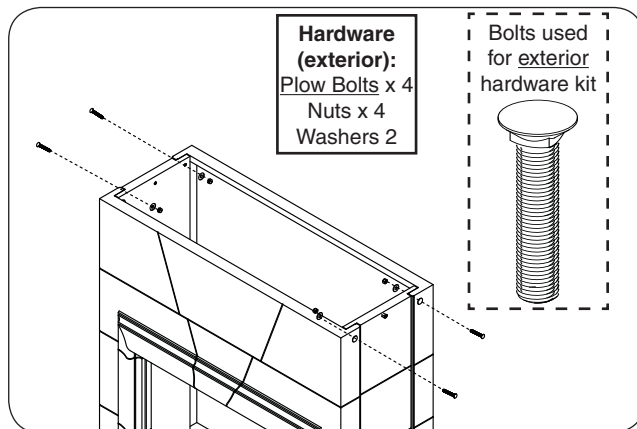

Fig. 17-4 Assemble body - top portion
4. Insert the hardware (exterior hardware kit) into the top portion of the body assembly pilot holes and hand tighten. See Fig. 17-4.